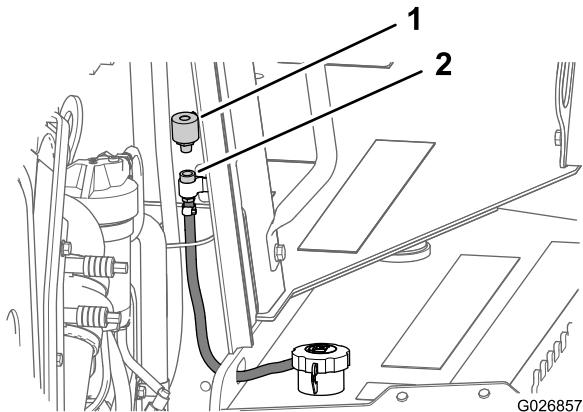

Figure 73
- 2. At the forward side of the engine compartment panel, remove the breather from the pipe coupling by rotating the breather counterclockwise (Figure 73).
- 3. Install a new breather into the pipe coupling hand tight (Figure 73).